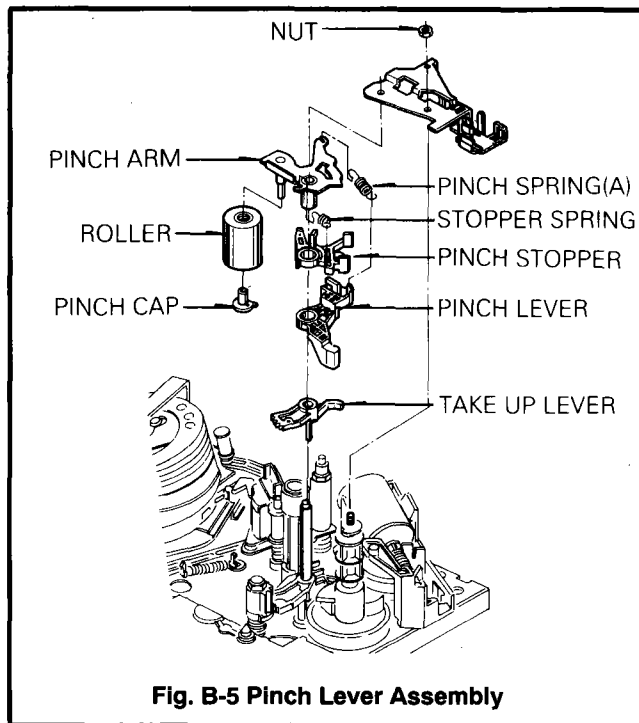

Fig. B-5 Pinch Lever Assembly
5. Pinch Lever Assembly(Fig. B-5)